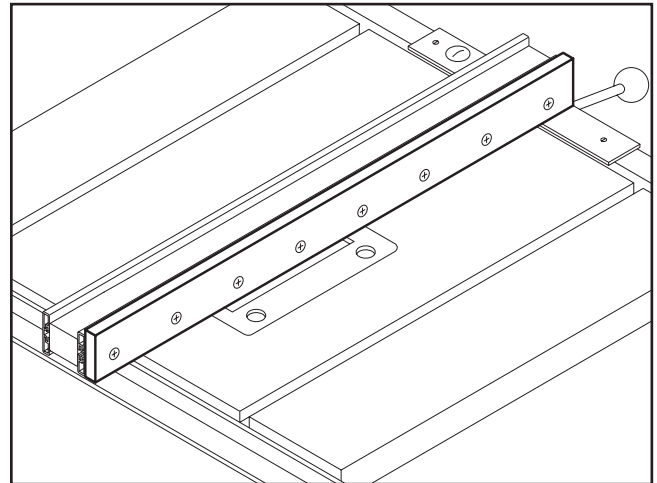

Figure 57. Auxiliary fence.
4. Thread the flat head screws through the auxiliary fence and into the hex nuts in the standard fence, and tighten securely as shown in **Figure 57**.